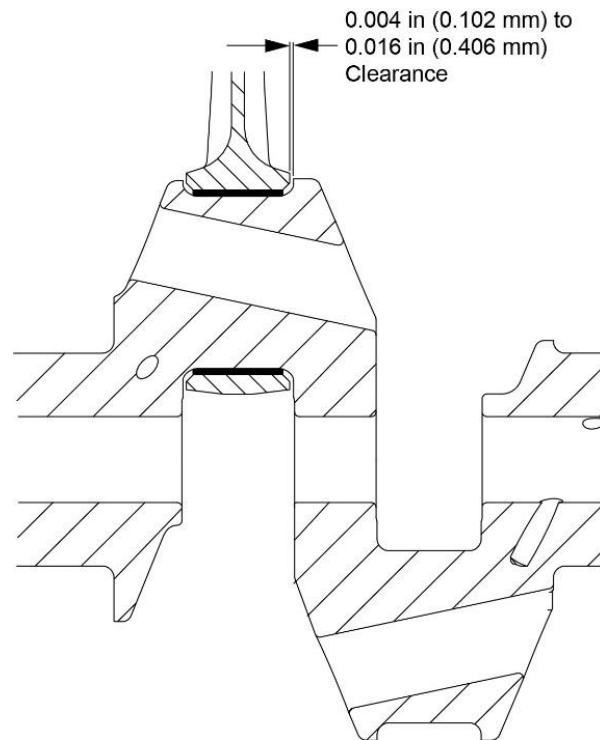

Figure 16
13. Measure the side clearance between the connecting rod and crankshaft with a feeler gage where shown in Figure 16. The clearance is to be 0.004 to 0.016 in (0.102 to 0.406 mm).